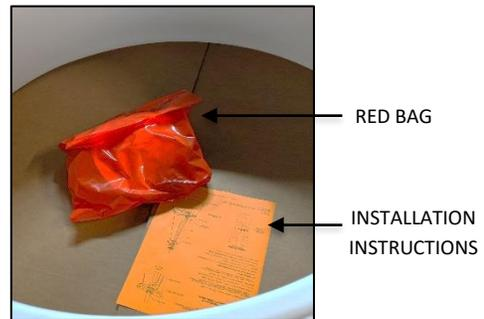

FIG.3 - RED BAG AND
2. INSTALLATION INSTRUCTIONS (shown in FIG. 3) - Please completely read the install instructions before starting installation.
3. RED BAG (shown in FIG. 3) contains below following items